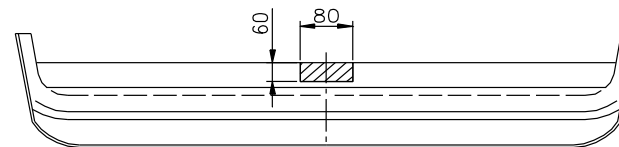
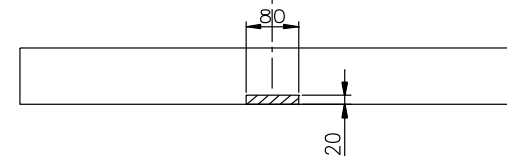

Fig. 2
Fig. 3
3. Cut out the fragment of the plastic fulfilment of the bumper, as showed on the fig. 2 and the fragment of the metal fulfilment, as showed on the fig. 3. Then fix the bumper to the towbar through holes (pos. A) in place of disassembled brackets.